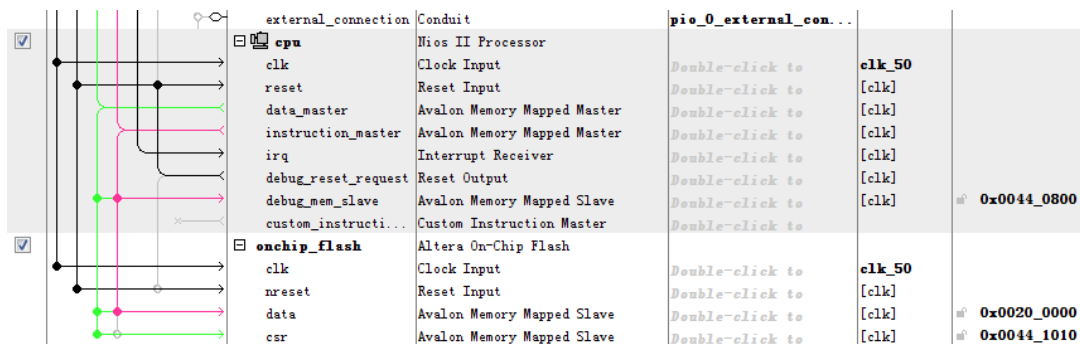

Figure 7-9 Qsys Design
- An onchip flash controller ip should be added into the Qsys for storing software code. The CPU data master and instruction master interface are connected to the onchip flash data bus as shown in **Figure 7-9**.